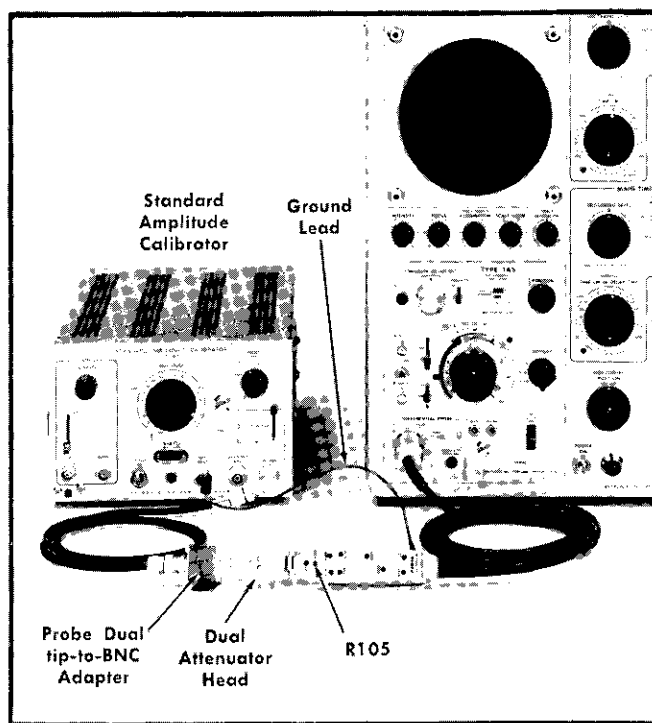
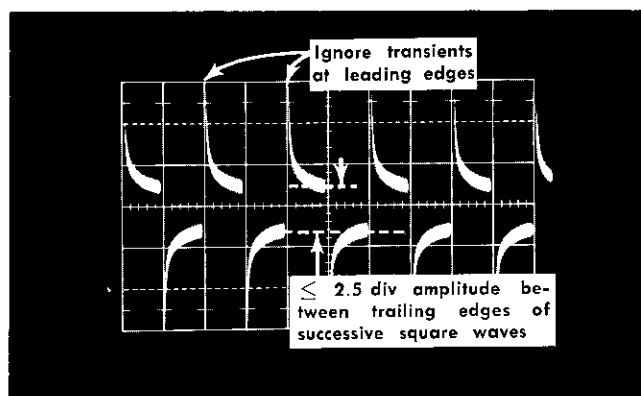

Fig. 6-5. Equipment setup for attenuator DC common-mode balance, step 3.
Fig. 6-6. Attenuator DC common-mode balance waveform, step 3. Sweep rate 0.5 ms/div; deflection factor 10 mV/div.
- a. The preliminary control settings apply. The equipment setup and adjustment location appear in Fig. 6-5.
- c. Connect a ground lead (item 21) from the Probe ground lug to the chassis of the Standard Amplitude Calibrator (item 4); then connect the following components to the Standard Amplitude Calibrator right OUTPUT jack in the sequence listed:
- f. Adjust the vertical POSITION control and the Oscilloscope triggering controls for a centered, stable display as in Fig. 6-6.
- g. CHECK—Attenuator DC balance. 2.5 div or less display amplitude should exist between the trailing edges of the square waves as indicated in Fig. 6-6.
- h. ADJUST— $\times 10$ HEAD DC ATTEN CM BAL (R105, Fig. 6-5) for minimum display amplitude between the trailing edges of the square waves. See Fig. 6-6. (Ignore the transients at the leading edges of the square waves.) 2.5 div or less for 2000:1 or greater CMRR.